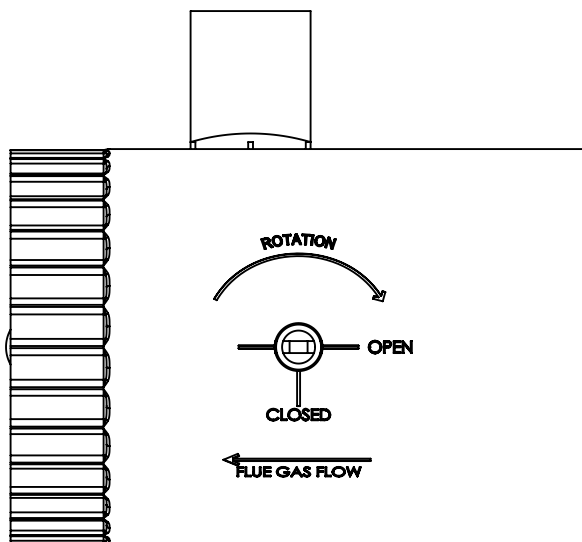

Figure 6-2: Vent Damper Position Indicator (shown in open position)
- C. Locate vent damper position indicator to be visible following installation. See Figure 6-2.